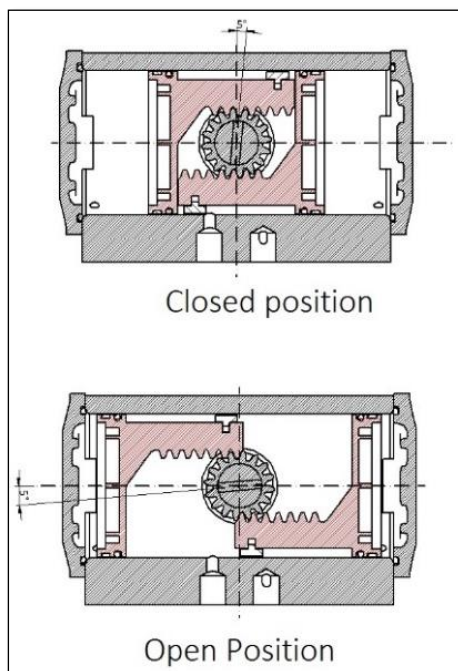

Fig No.30
- e) Temporarily install the local position indicator onto the pinion (02) to determine whether the correct stroke is obtained. Ensure that the arrow in the local position indicator will rotate a minimum of 5° beyond the 90° vertical centreline of the actuator body (01) and a minimum of 5° beyond the 0° horizontal centreline of the actuator body as shown in fig No.30. If the proper stroke is not obtained, remove the pistons and repeat from step 4.4 C). Once proper stroke is obtained, remove the local position indicator.